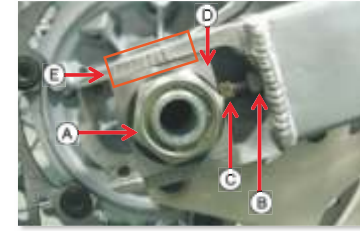

Fig. 1
1. Check the swing-arm chain slider **A** for wear and/or damage. Fig. 1
- OFF** – In this position, the fuel tap is closed. No fuel can flow to the carburetor. Fig. 1